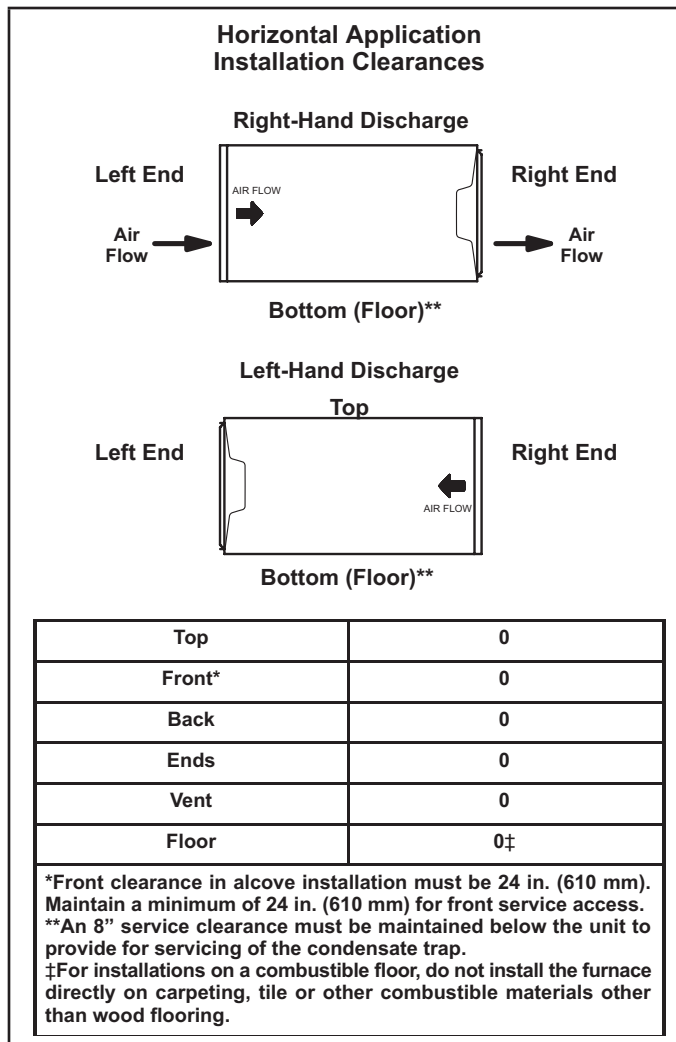

Figure 17
The EL297UHVK furnace can be installed in horizontal applications with either right- or left-hand air discharge. Refer to Figure 17 for clearances in horizontal applications.
- 1 - Select location for unit keeping in mind service and other necessary clearances. See Figure 17.